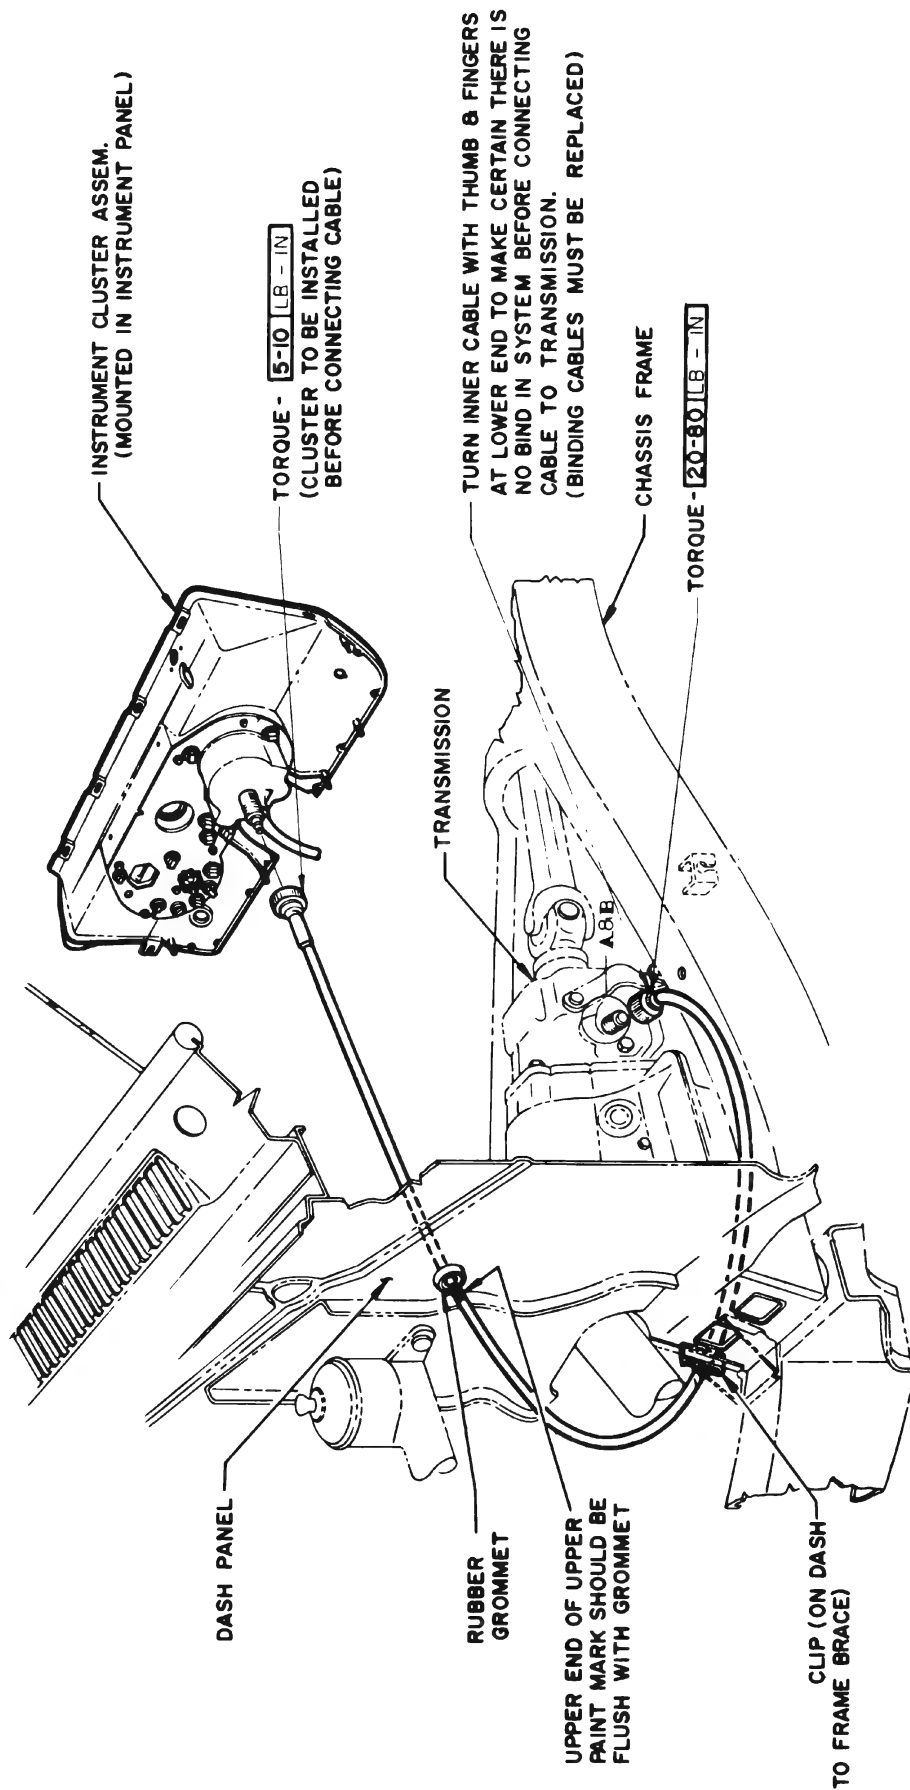

Figure 10-74—Speedometer Cable Installation
5. If noise disappears with transmission stationary, check further for cause of noise by checking for proper installation of speedometer cable as shown in Figure 10-74 or 75.
If the speedometer installation appears to be noisy or the speed indicator wavers, inspect the cable casing for damage, sharp bends, or for being out-of-position in the supporting clips. See Figure 10-74 or 75. If casing is in good condition and properly installed, remove inner cable for inspection.